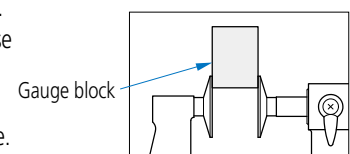

Fig.1 Setting to a reference point
- Alternatively, to maximize the accuracy of a measurement the micrometer can be set to gauge blocks equal to the expected measurement value (at the reference point). This minimizes the influence of non-parallelism of the disks and takes advantage of the higher narrow-range accuracy specification. (**Fig.1**)